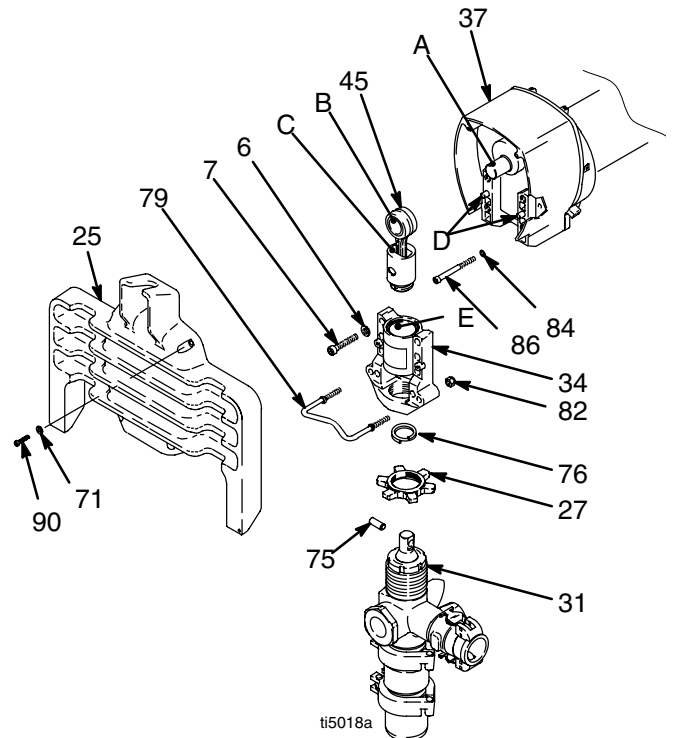

Fig. 20
2. Fig. 20. Do **Pump Repair, Removal**, page 18.
3. Tip motor/drive housing assembly horizontal. Remove four screws (90), washers (71) and gear housing base (25).
4. Remove four screws (7) and lockwashers (6) from bearing housing (34).
5. Pull connecting rod assembly (45) and lightly tap lower rear of bearing housing (34) with a plastic mallet to loosen it from drive housing (37). Pull bearing housing and connecting rod assembly off drive housing.
6. Inspect crank (A) for excessive wear and replace drive housing, if necessary, page 22.